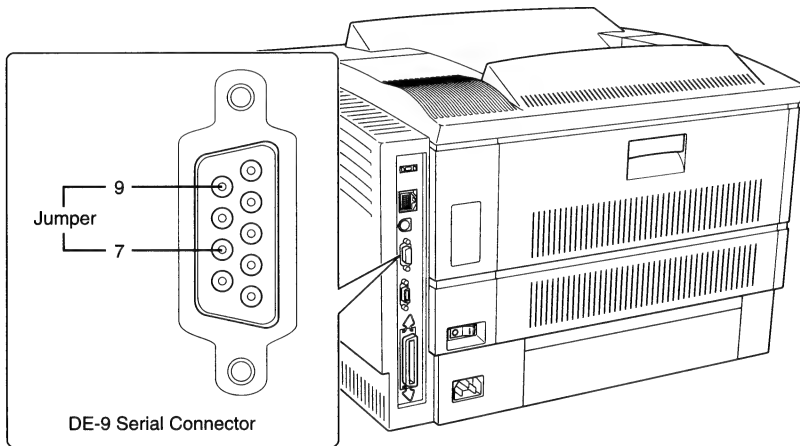

Figure 6 DE-9 Serial Connector
3. Jumper pins 7 and 9 on the I/O board DE-9 connector, as shown in Figure 6.